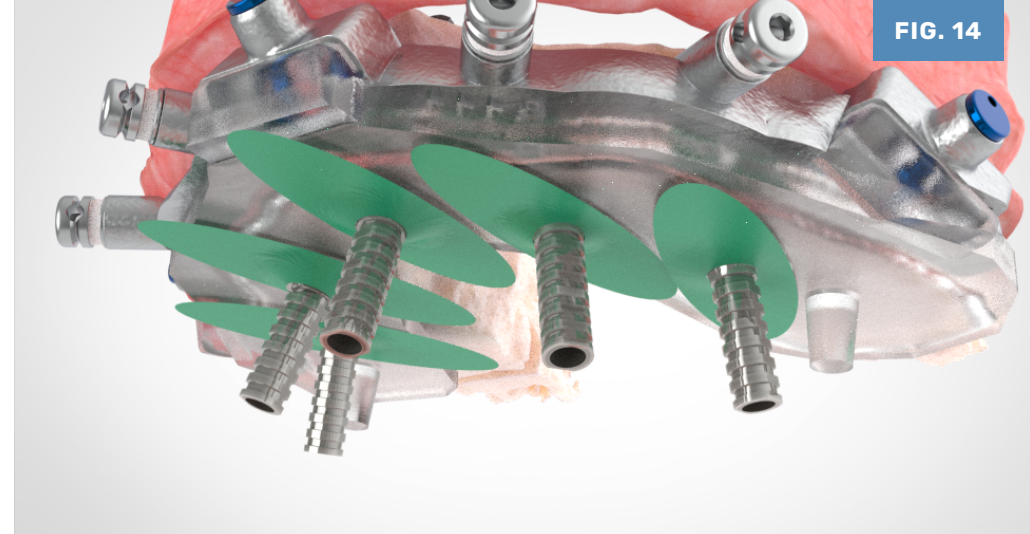

FIG. 15
4. Backfill the voids between the temporary cylinders and the Provisional with STELLAR. **Do not allow any material to enter the cylinders! (FIG. 15)**